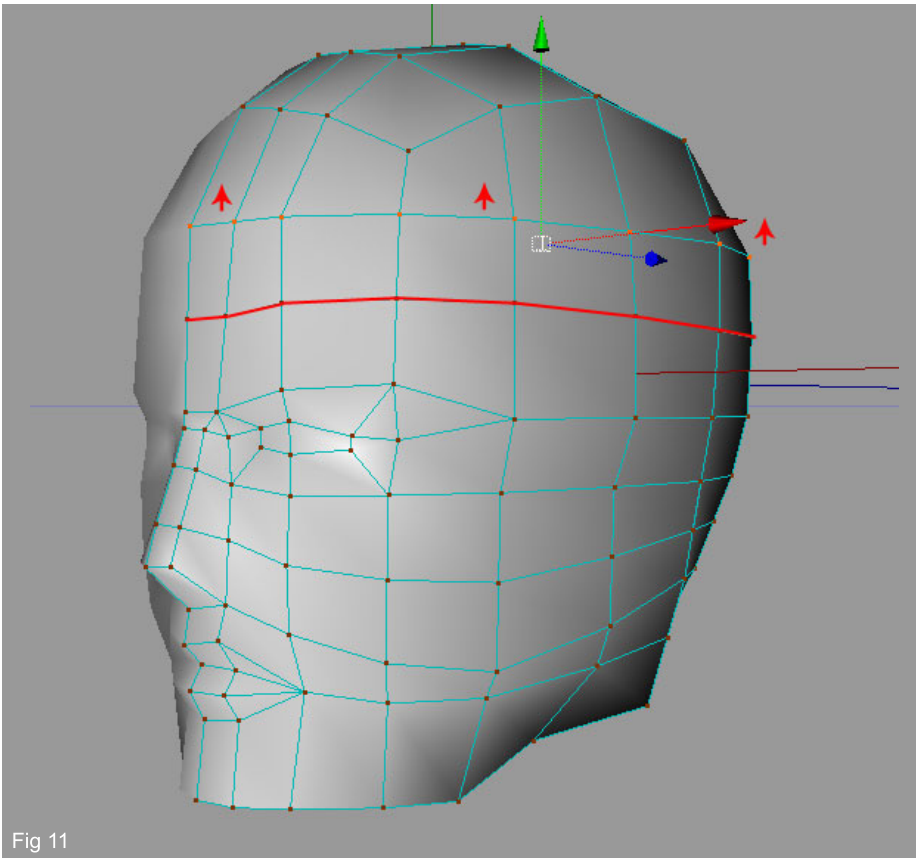

Fig 11
11. Add more detail above the brow. First move the marked points up, then add a cut like shown in fig 11 which will help form a better forehead shape.